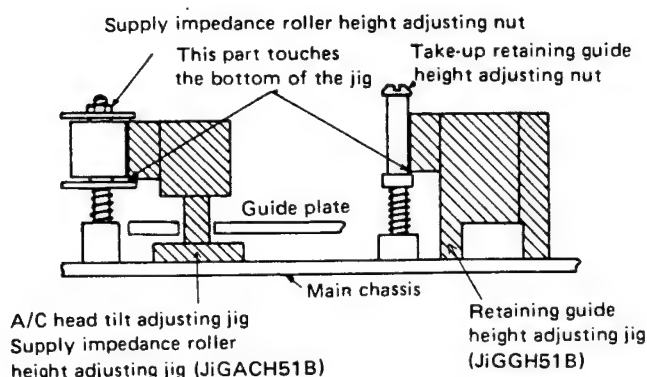
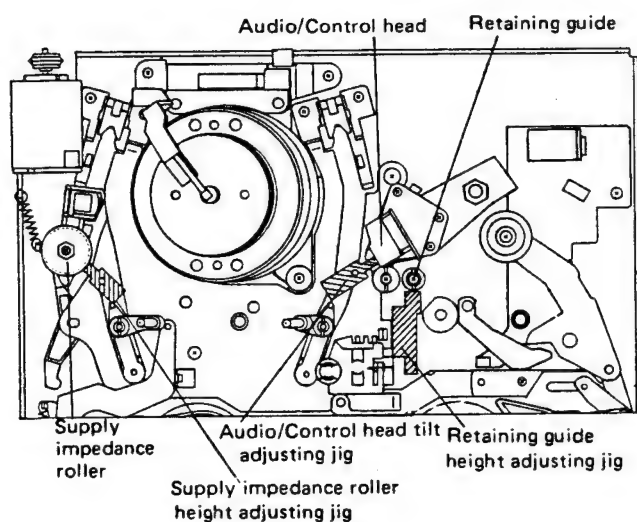

Figure 19.
Figure 21.
Set the supply impedance roller height adjusting jig (the same as the audio/control head tilt adjusting jig) on the main chassis as shown in Fig. 19. For details, also see Fig. 21. Using a box driver, slowly turn the supply impedance height adjusting nut until the roller's height is as specified.
Set the retaining guide height adjusting jig on the main chassis as shown in Fig. 19. For details, also see Fig. 21. Using the adjusting screwdriver (JiGDRIVERH-4), slowly turn the retaining guide height adjusting nut until the guide's height is as specified.
Set the audio/control head tilt adjusting jig on the main chassis as shown in Fig. 19. For details, also see Fig. 21. Using a philips screwdriver, slowly turn the adjusting screw until there is no clearance between the jig and audio/control head.
3. Set the supply impedance roller height adjusting jig and retaining guide height adjusting jig on the main chassis as shown in Fig. 19.